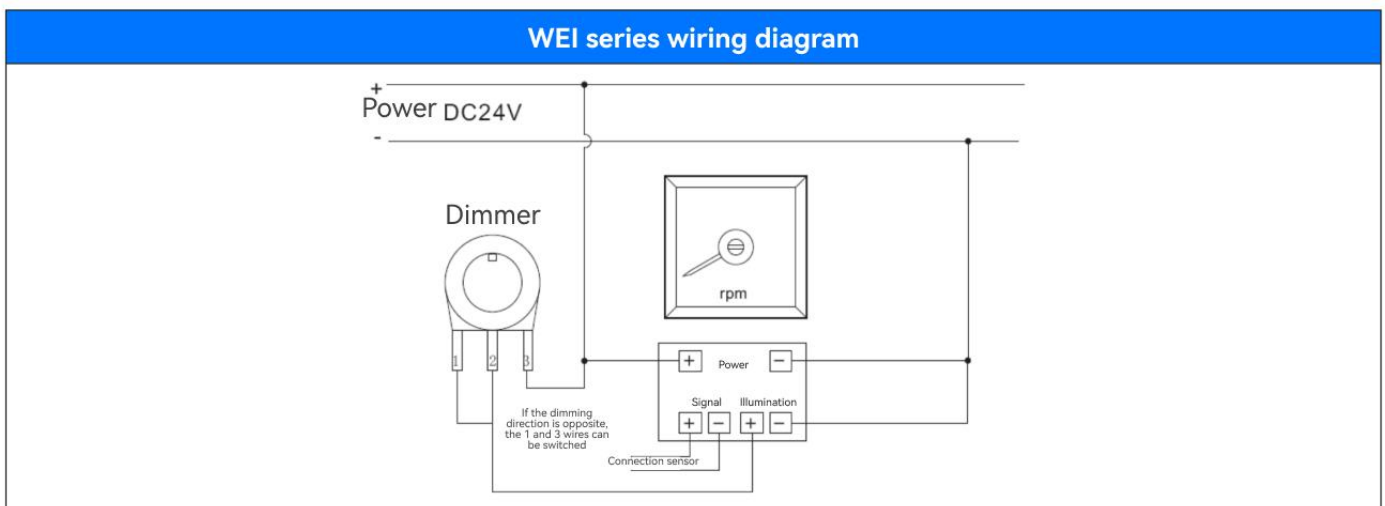

Figure 1.6
2. WSI series has six wiring terminals, in which the power supply is supplied separately. If the backlight of the instrument needs to be adjusted, a dimmer (resistance value 250K) needs to be connected in series. If the dimming direction is opposite, 1/3 of the dimmer wiring should be replaced, as shown in Figure 1.6.